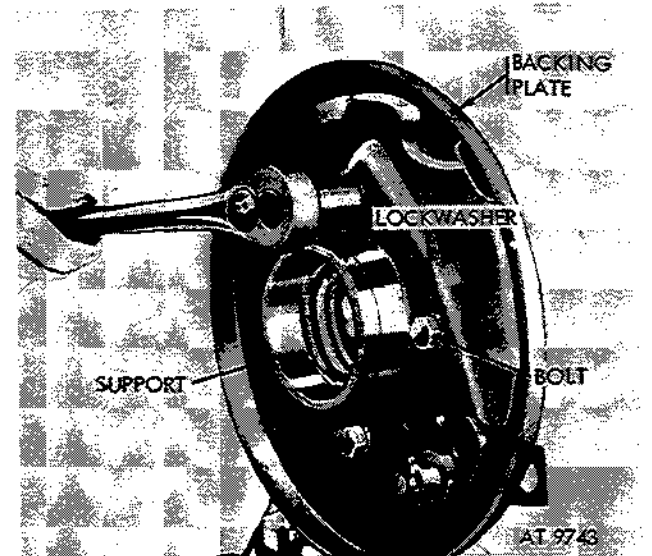

Figure 2-317. Remove backing plate from support.
- (6) Remove support and backing plate. Remove four brake backing plate retaining bolts and lockwashers and remove backing plate from support (fig. 2-317).